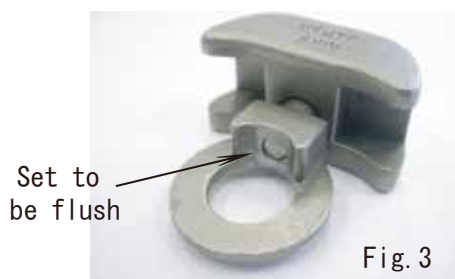

Fig. 3
- 1) Turn adjuster bolt until the bolt tip and a face of axle holder to be flush. (Fig.3)
- 3) Turn square projection of axle holder and marked side of base to same direction. (Fig.3 & 4)